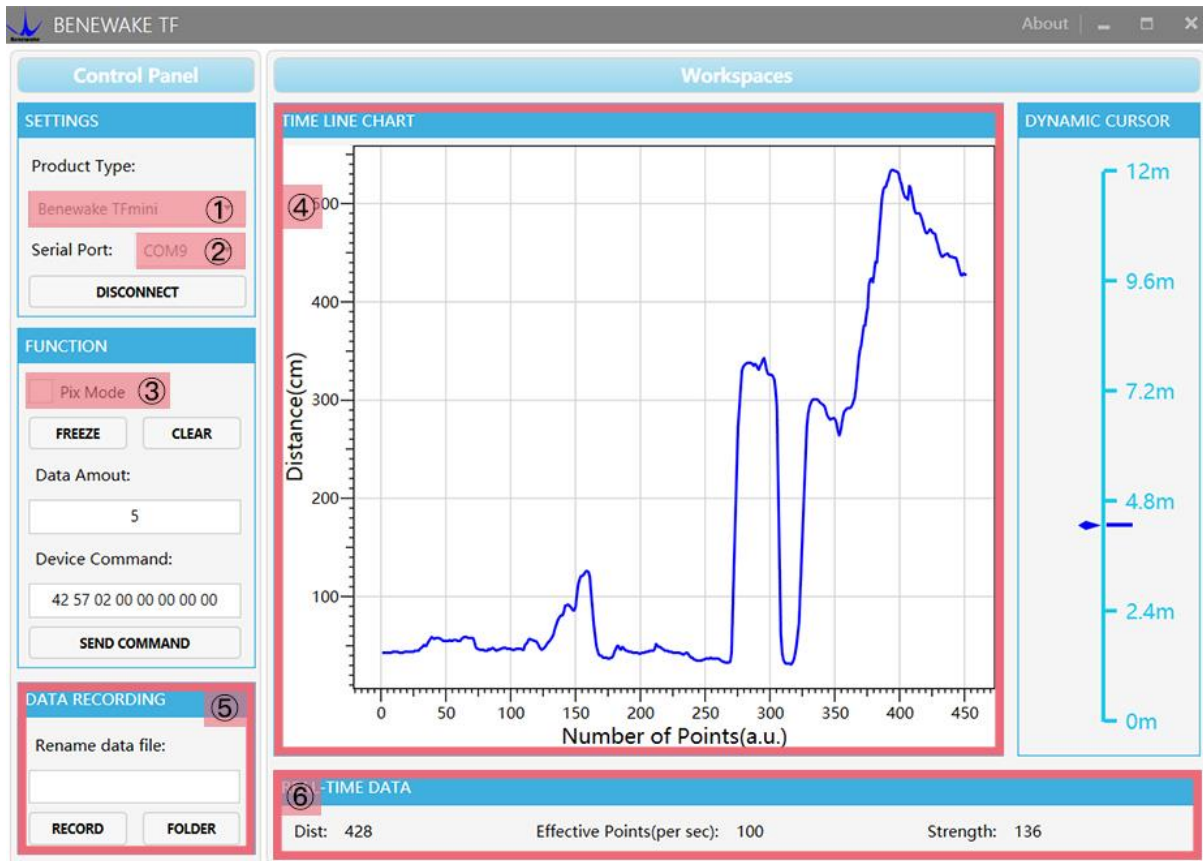

Figure 5 Software Interface and Display
③ Connection to the Test software and data output
Open the PC software and select “① TFmini” and select automatically recognized occupied serial port (here it is “② COM9”), as shown in Figure 5